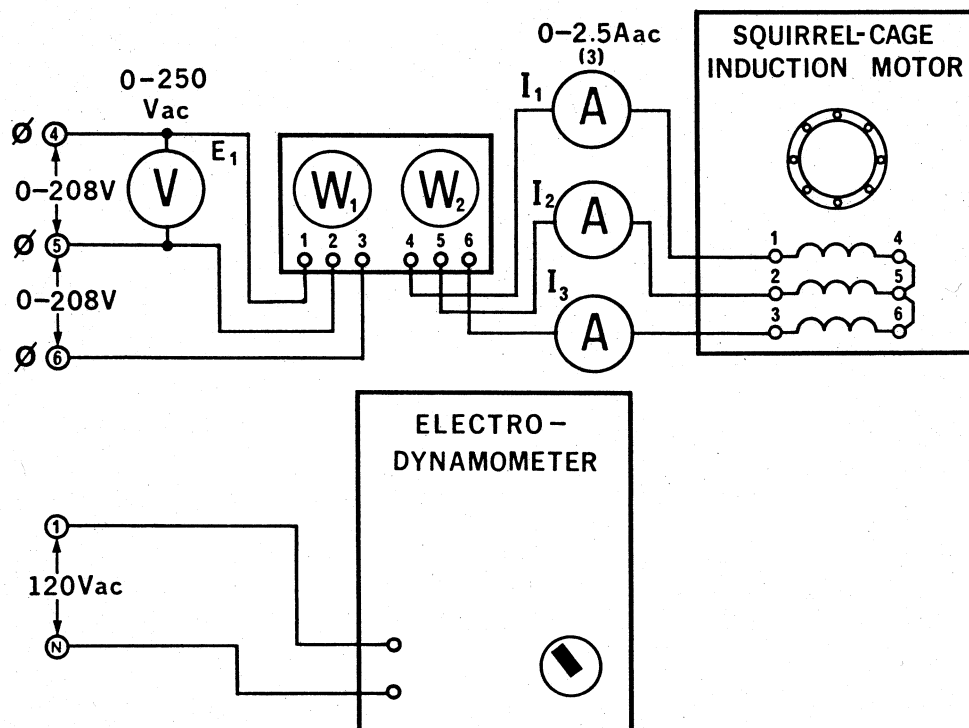

Figure 6-1.
4. Using your Four-Pole Squirrel-Cage Induction Motor, Electrodynamicometer, Three-Phase Wattmeter, Power Supply, AC Ammeter and AC Voltmeter, connect the circuit shown in Figure 6-1. Do not couple the motor to the dynamometer at this time! Note that the stator windings are wye-connected through the wattmeter to the variable 3 ϕ output of the power supply, terminals 4, 5 and 6.